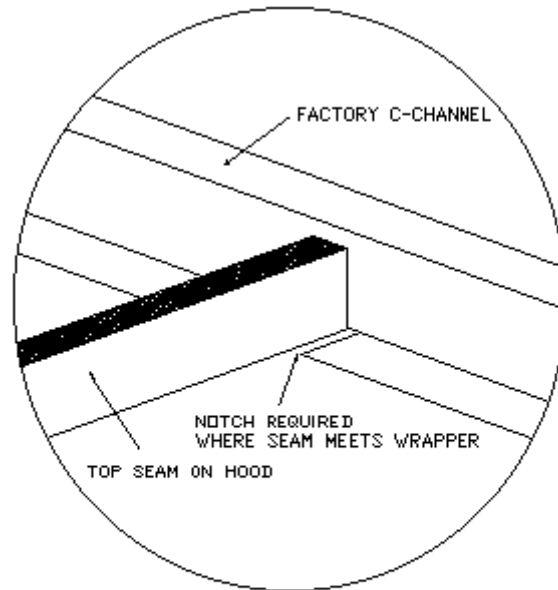

FIG. 3 TOP HOOD SEAM DETAIL
- C. Install end to end mating clips and back to back mating clips. Run a bead of caulk along the seam to be covered and slip the mating clip into position as shown in figures 3 & 4.
**Note:** A notch will have to be cut on the wrapper flange using shears (tin snips) where interference occurs. (Fig. 3)